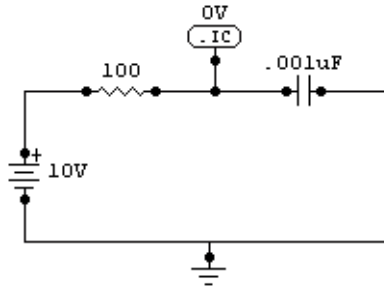

Figure 3.7. Notice that the resistor and capacitor now have different label-values.
- 9 Double-click the Capacitor, change the Label-Value from 1uF to .001uF, and then click OK. Compare your schematic with Figure 3.7.